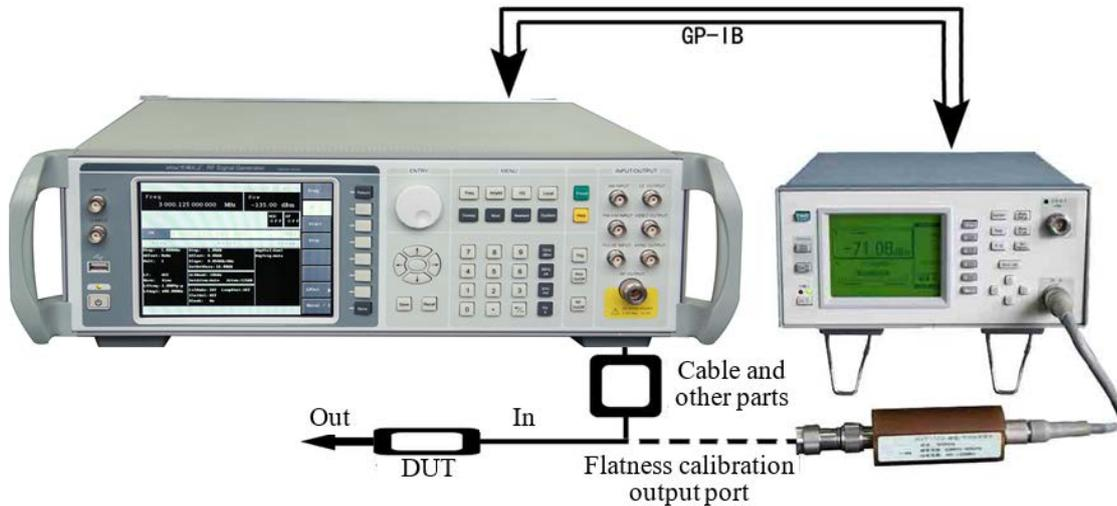

Figure 4-5 User Flatness Calibration
- 1) Connect the instrument as shown in Figure 4-5.